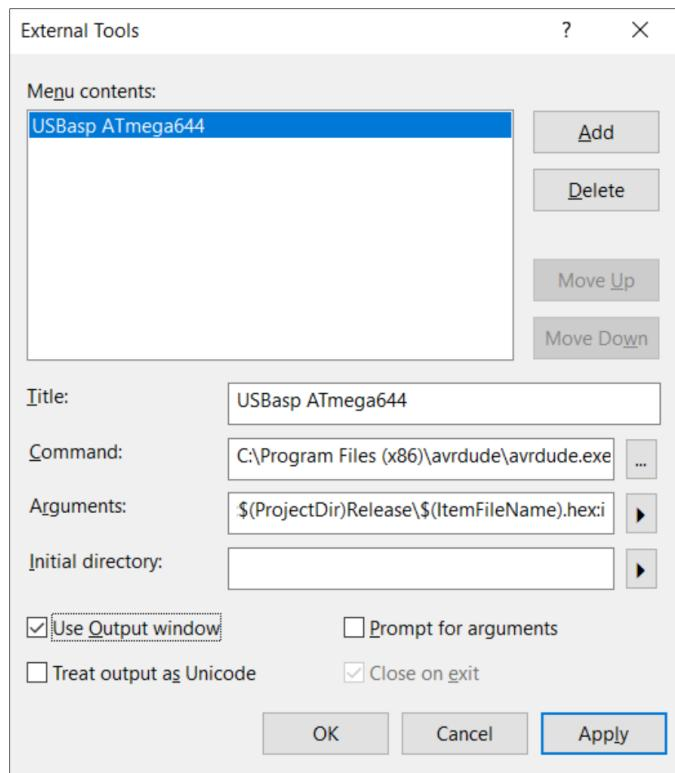

Figure 36: Adding a programming option for USBasp to Microchip Studio
2. As shown in Figure 36, choose `avrduude.exe` for the command (in whichever directory you unpacked it).